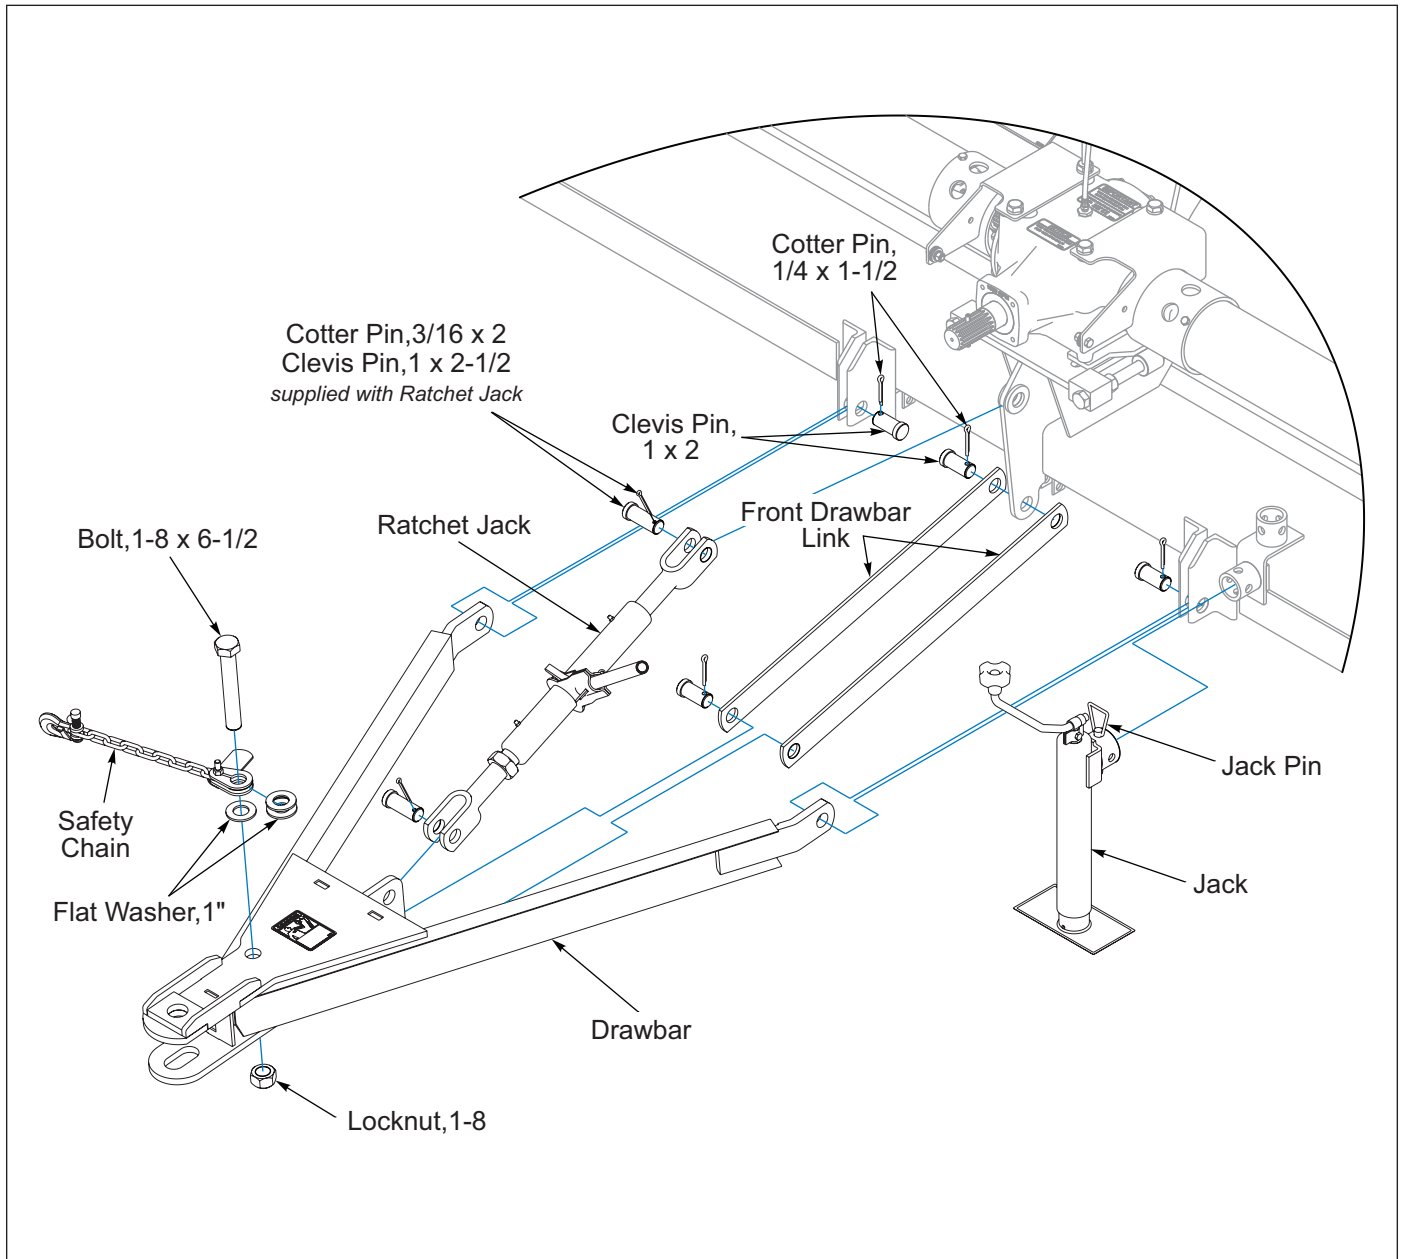

Figure 2-3: Drawbar Installation
1. Orient the Drawbar with the Hitch Slot on the Bottom. Attach the Drawbar to the Lugs on the front of the Shredder Frame with 1 X 2 Clevis Pins. Secure with 1/4 x 1-1/2 Cotter Pins. **See Figure 2-3.**